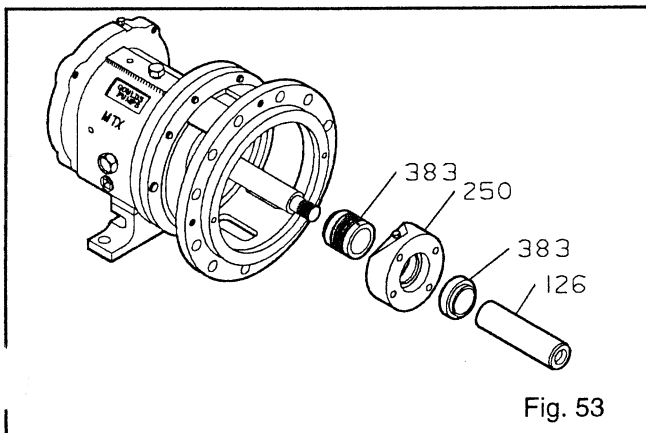

Fig. 53
- Remove the stationary seat and the gland or seal chamber with the gland gaskets (Figs. 53 & 54).